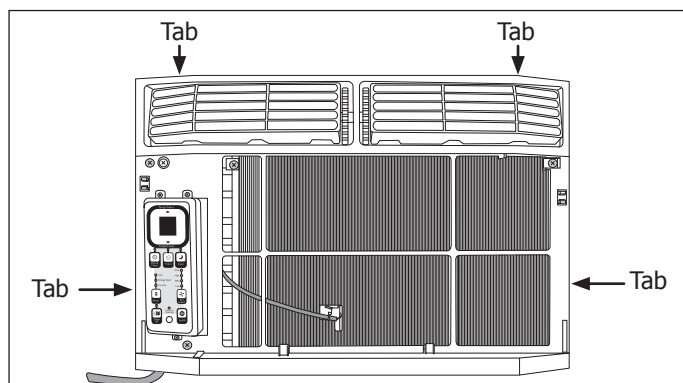

Figure 4-90.
7. Remove the front panel by pulling the outer edges away from the unit frame until the tabs are free of the slots in the unit frame. (See Figure 4-90 Arrows show the tab locations) Release the two side tabs first then lift the front panel upwards until the front panel is free.